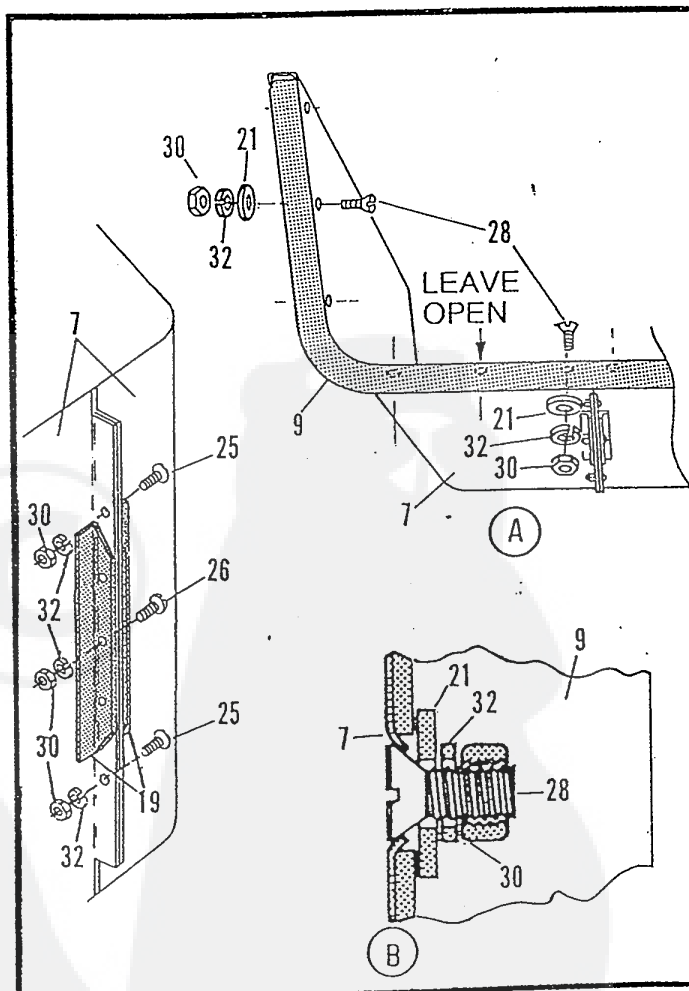
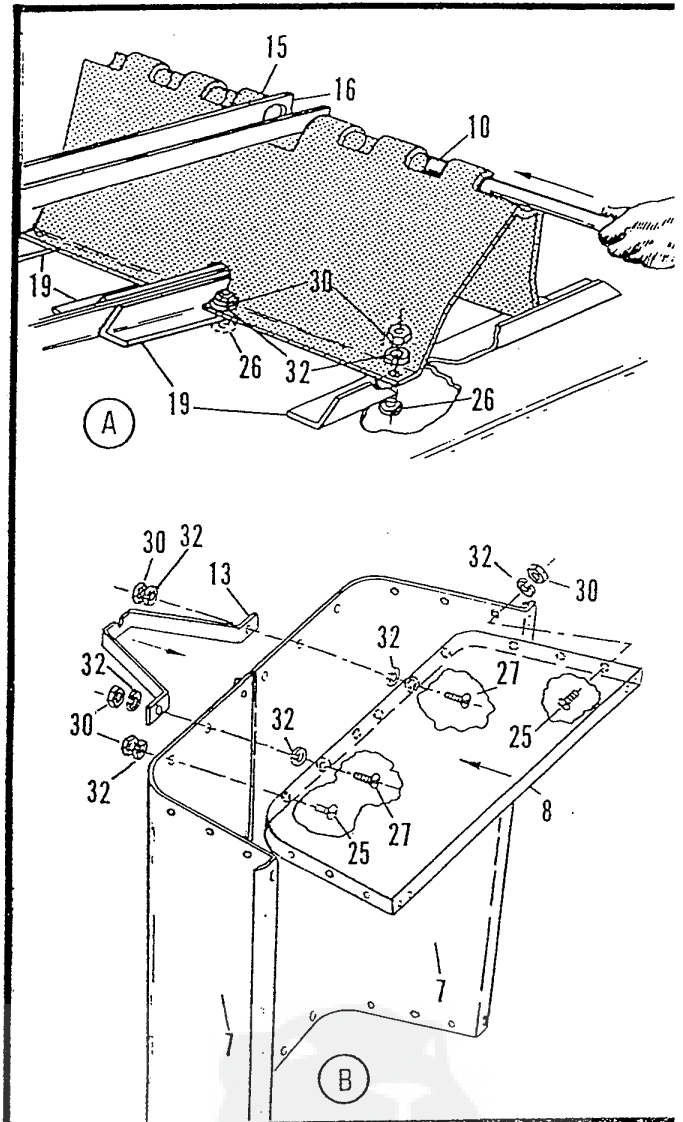

Fig. 1
Fig. 2
Refer to Fig. 1
Refer to Fig. 2
- Secure with two 5/16" Lock Washers (32) and two 5/16" Hex Nuts (30). Finger tighten.
- Align remaining holes in End Panel and Bed Halves and insert 5/16" x 1/2" Round Head Screws (25 - from inside of Wagon Bed), securing with 5/16" Lock Washers (32) and 5/16" Hex Nuts (30). Finger tighten.
- Lay the Cart upside down on a flat smooth surface (to insure a level bed) and securely tighten all fasteners used in Fig. 1 and Fig. 2.
Note: It is necessary to tighten each Flat Head Screw (28) until the head is flush with the bed surface. See illustration "B", Fig. 1.
- While the Cart is upside down, lay the Drawbar (16) (with finages up) in the Axle Support Bracket (15) "cut-out" and on the Lock Bracket (13). See illustration "A".
- Line up the holes in the two flanges of Drawbar with the Axle Guides formed in the Axle Support Bracket (15).
- Guide the Axle (10) through until there is an equal amount of Axle extending from both sides of Axle Support Bracket (15).